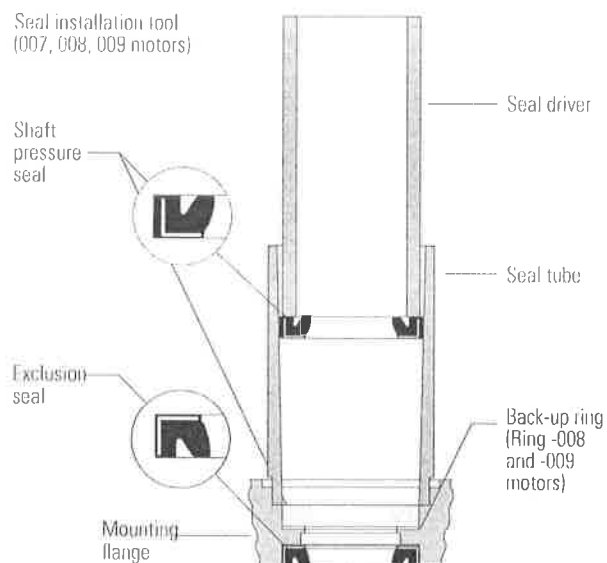

Figure 12
21. Install exclusion seal in flange (see Figure 12). Carefully press exclusion seal into place.
23. Lubricate I.D. of seal tube and O.D. of shaft pressure seal with light film of clean petroleum jelly. Align small I.D. end of seal tube with seal seat in mounting flange. Install back-up ring and pressure seal in tube with lips of seal face up (see Figure 12).